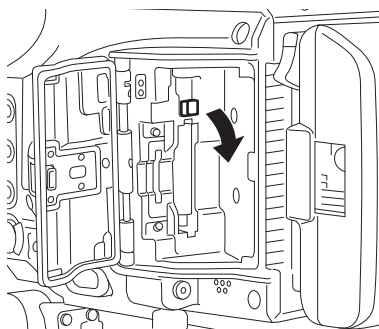
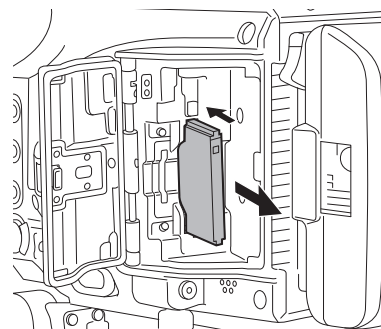

Fig. 1
Fig. 2
- Lift the eject button (Fig. 1), and press in. (Fig. 2)